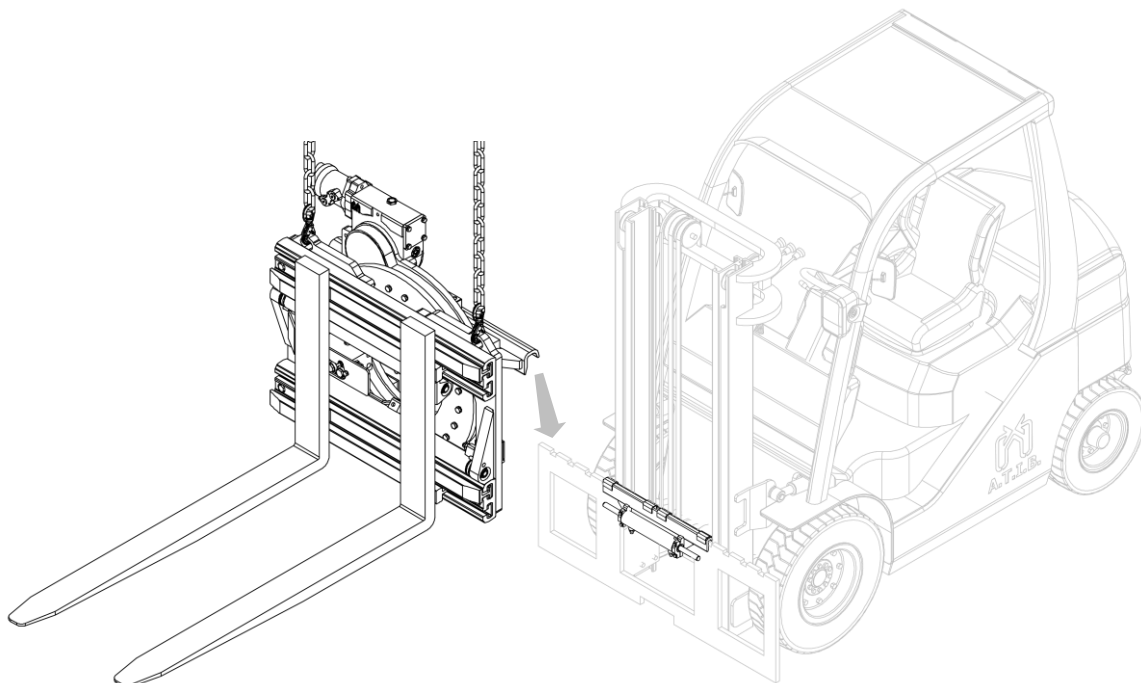

Figure 8
7. Using an overhead crane or hoist of sufficient capacity, place the equipment on the dual coupling, taking care to position it correctly (see *Figure 8*).